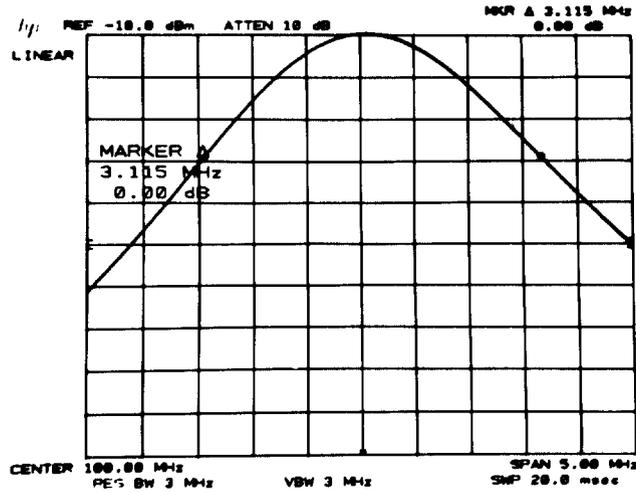

FIGURE 5. RESOLUTION BANDWIDTH MEASUREMENT
7. Press MARKER **Δ** and position movable marker 3 dB down from the signal peak on the negative-going edge of the trace (the MARKER Δ amplitude readout should be $.00 \text{ dB} \pm 0.05 \text{ dB}$). The 3 dB bandwidth is given by the MARKER Δ frequency readout (see Figure 5). Record this value in Table 5.